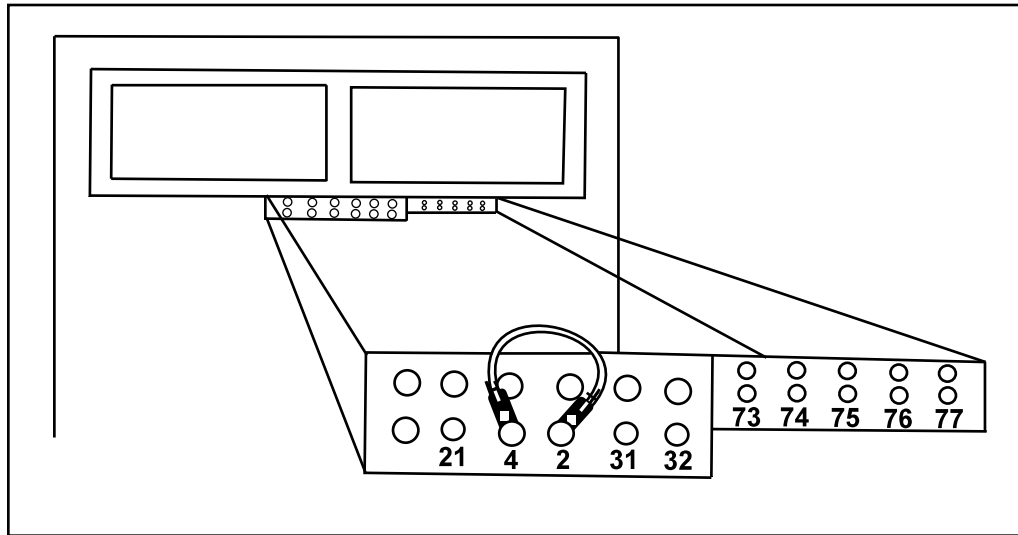
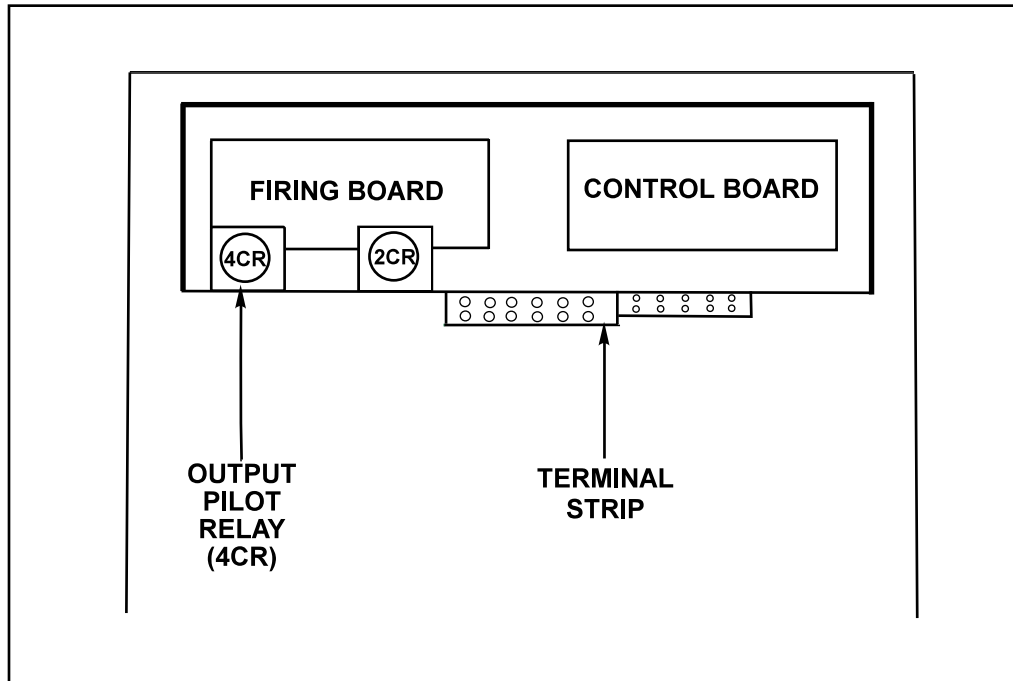

FIGURE F.7 - Terminal Strip Jumper Wire Connections
FIGURE F.8 - Output Pilot Relay 4CR Location
6. Connect a jumper wire from terminal #2 to terminal #4 on the terminal strip. These can be accessed through the Front Panel Assembly door. See Figure F.7.
- 15. Test the Output Pilot Relay (4CR) for operation by removing and replacing the jumper wire repeatedly from terminal #2. See Figure F.7. This should cause the relay contacts to open and close. The contacts can be seen closing and opening through the clear plastic relay case or can be heard opening and closing. If the Output Pilot Relay (4CR) does not close when energized, check for loose or faulty wiring. See Wiring Diagram and Figure F-8.
4. Connect a jumper wire from terminal #2 to terminal #4 on the terminal strip. These can be accessed through the front panel assembly door. See Figure F.7.